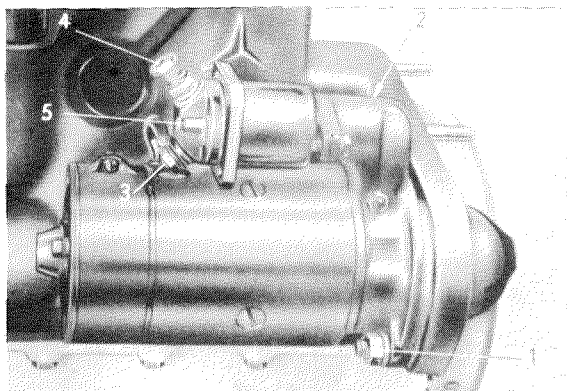

Figure 15-1/1
2. Remove the control line from the connecting terminal 50 (5) after unscrewing the slotted screw (see Figure 15-1/1).
3. Remove the battery cable 30 and the charging line 51 from the connector (4) after unscrewing the hex nut.
5. Unscrew the hex nut (1) and (2) and remove the starter (see Figure 15-1/1).
6. Insert the starter in the receiving bore; the starter must soundly rest on the facing of the flange without sticking or jamming. Never tighten a jamming starter with the hex nuts (1) and (2). Secure the hex nuts (1) and (2) after installing washers (see Figure 15-1/1).
7. Connect the battery cable 30 and the control line 51 to the connector (4) of the solenoid switch (see Figure 15-1/1).
8. Connect the control line to the connecting terminal 50 (5) of the solenoid switch (see Figure 15-1/1).